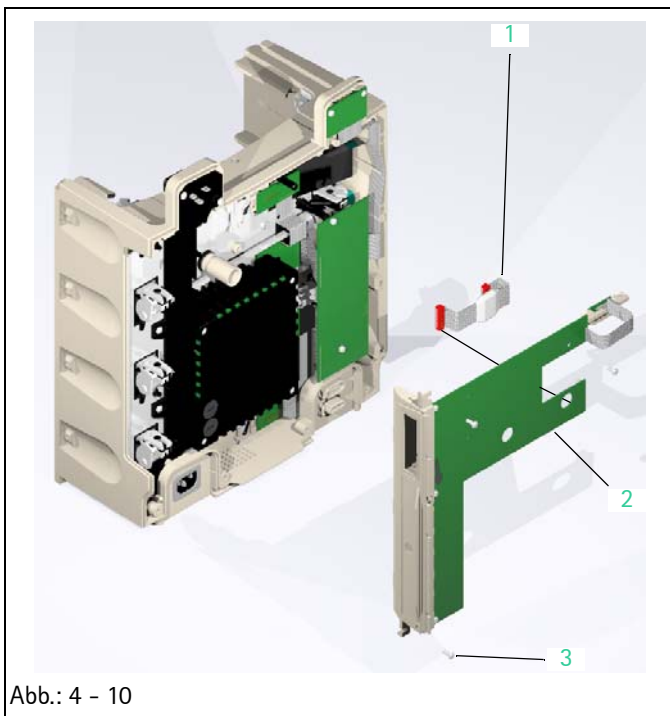

Abb.: 4 - 10
1. Loosen five screws (Abb.: 4 - 9 / Item 2) and remove screws together with the serrated lock washers (Abb.: 4 - 9 / Item 1) and the device bracket (Abb.: 4 - 9 / Item 3).
2. Remove insulating hood (Abb.: 4 - 9 / Item 4) from the power supply.
Legende zu Abb. 4 - 10: